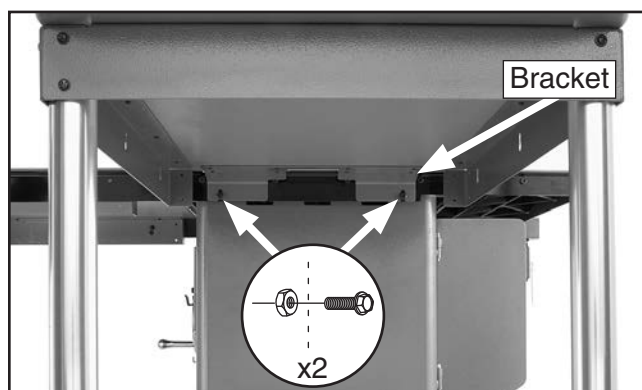

Figure 36. Outfeed table fastened to rear rail.
3. Place the extension table assembly upright with the feet on the ground, align the slots in the extension table bracket with the rear rail mounting holes, then fasten the table to the rail with (2) M8-1.25 x 16 flange bolts and M8-1.25 hex nuts, as shown in **Figure 36**.